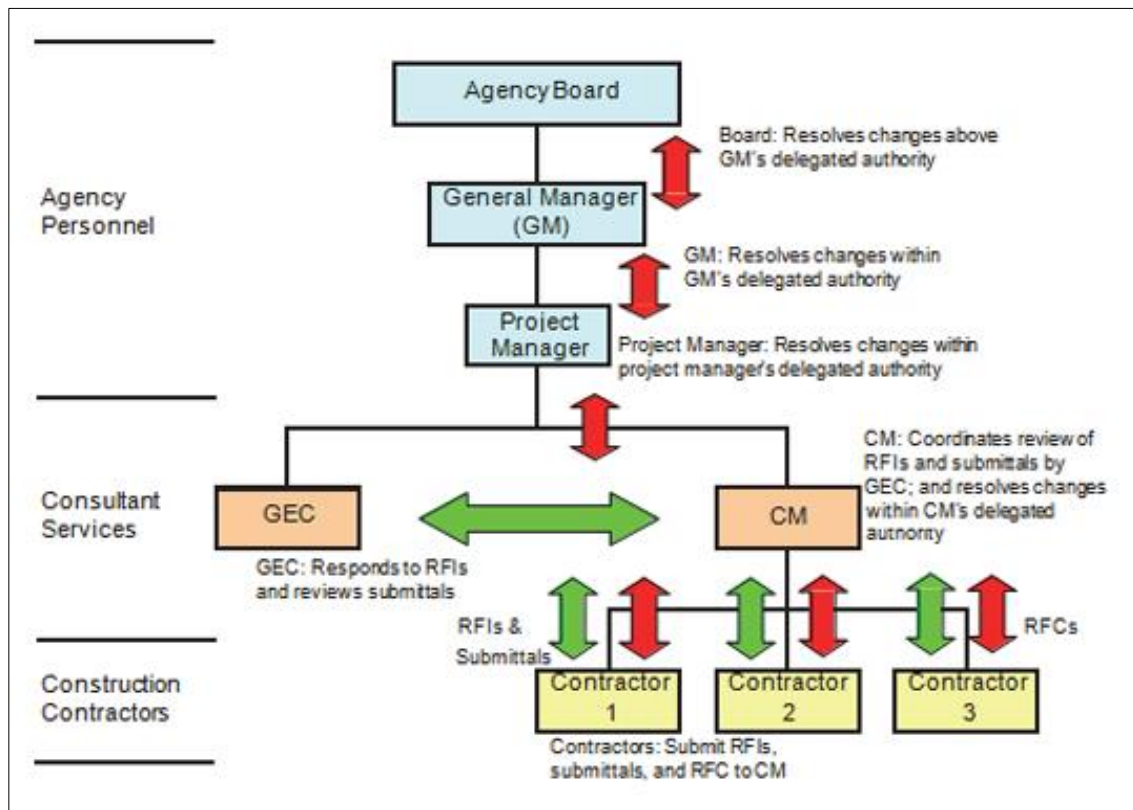

Figure 6: Project Organization, Assigned Authorities, and Lines of Communication for Construction³
Configuration Management: The red arrows in Figure 6 represent processes that the project manager should implement to provide for the configuration administration of contractor RFCs:
The green arrows in Figure 6 represent processes that the project manager should implement to provide for the configuration administration of contractor RFIs and submittals:
- As shown by the red arrows in Figure 6 above, distribute responsibility and financial authority for contract change choices via the project chain of command.